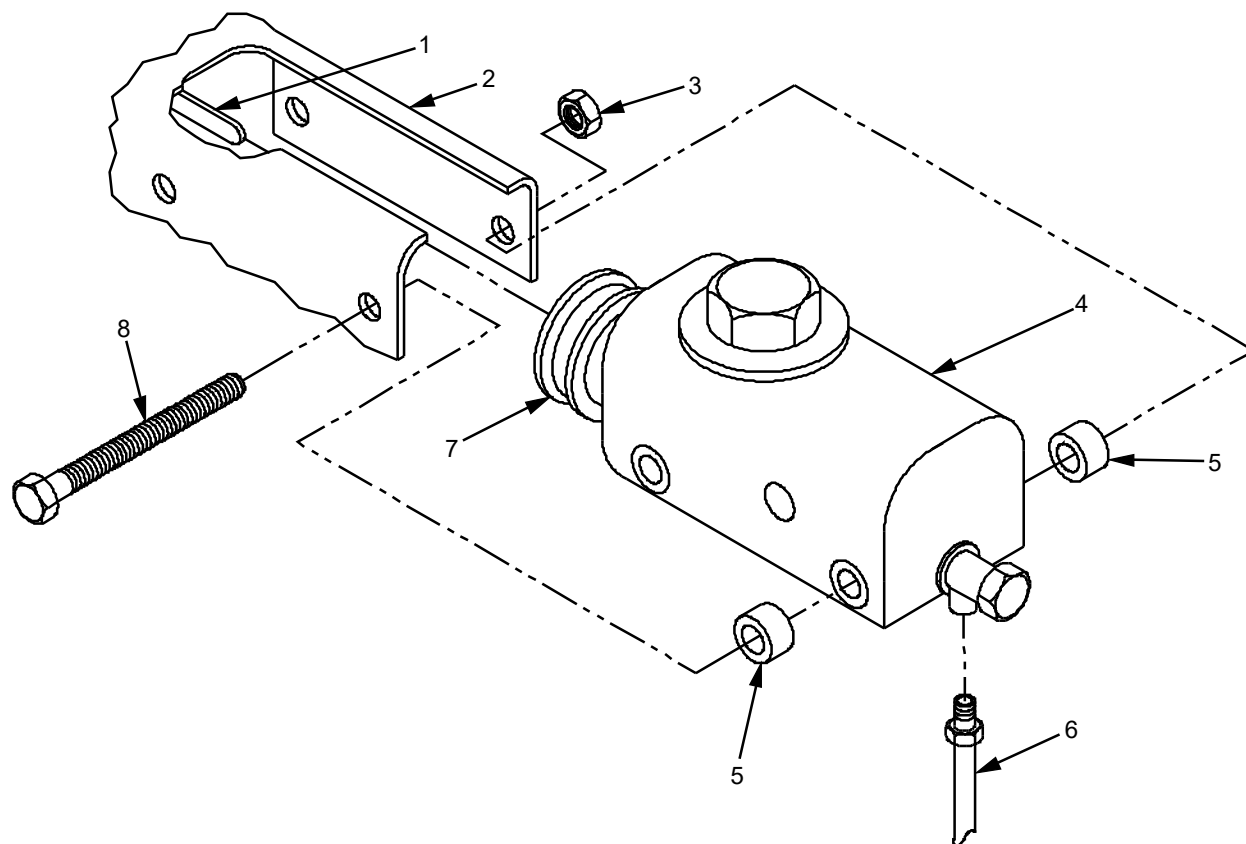

Figure 1. Master Cylinder Removal/Replacement.
1. Remove the main hydraulic brake line (Figure 1, Item 6) from master cylinder (Figure 1, Item 4).
2. Remove 2 mounting bolts (Figure 1, Item 8) and lock nuts (Figure 1, Item 3) from trailer frame (Figure 1, Item 2) and master cylinder (Figure 1, Item 4).
3. Retain 4 spacers (Figure 1, Item 5) from between master cylinder (Figure 1, Item 4) and trailer frame (Figure 1, Item 2).
4. Slide master cylinder (Figure 1, Item 4) back toward trailer bed, being careful not to damage actuator shaft (Figure 1, Item 1).
1. Lift actuator shaft (Figure 1, Item 1) while sliding master cylinder (Figure 1, Item 4) into trailer frame (Figure 1, Item 2).
2. Slide actuator shaft (Figure 1, Item 1) into slot in master cylinder plunger (Figure 1, Item 7).
3. Position spacers (Figure 1, Item 5) in between master cylinder (Figure 1, Item 4) and trailer frame (Figure 1, Item 2).
4. Insert mounting bolts (Figure 1, Item 8) and lock nuts (Figure 1, Item 3) into trailer frame (Figure 1, Item 2), master cylinder (Figure 1, Item 4), and spacers (Figure 1, Item 5) and tighten.
5. Attach main hydraulic brake line (Figure 1, Item 6) to master cylinder (Figure 1, Item 4) and tighten.